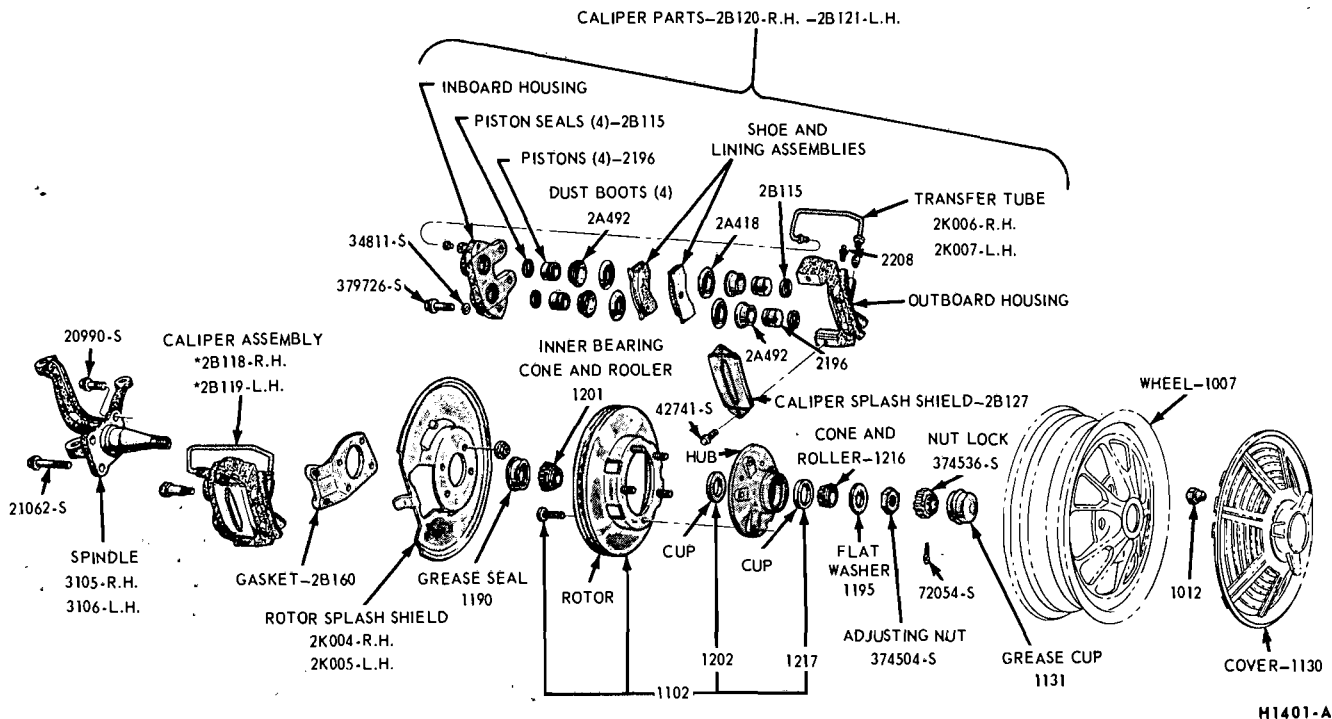

FIG. 20—Disc Brake Disassembled
1. Remove the wheel and tire from the hub and rotor assembly (Fig. 20). **Be careful to avoid damage or interference with the caliper splash shield, bleeder screw fitting or transfer tube.**
1. If the rotor is being replaced, remove the protective coating from the new rotor with carburetor degreaser. Pack a new set of bearings with specified grease, and install the inner bearing cone and roller assembly in the inner cup. Pack grease lightly between the lips of a new grease retainer and install the retainer (Fig. 20).
2. If the shield is bent, straighten it out before installation. Position the shield to the mounting bracket, install the attaching nuts, and torque to specification (Fig. 20).